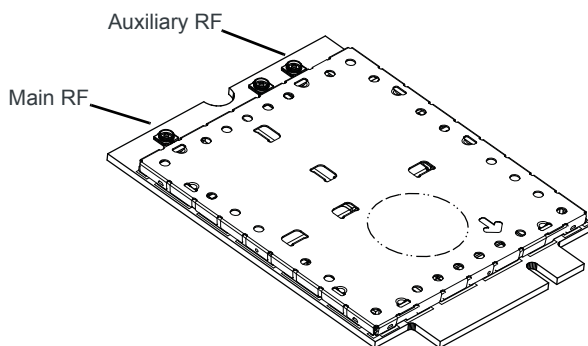

Figure 6: Module connectors
7. Connect the Cellular B (green) cable to the connector marked “Main” on the EM7511 module, as shown in Figure 6.
8. Connect the Diversity B (black) cable to the connector marked “Aux” on the EM7511 module, as shown in Figure 6.